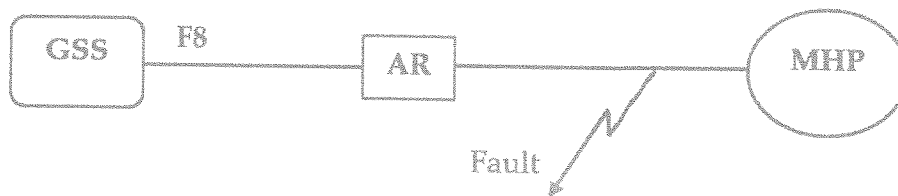

Figure Q2: Fault location in Feeder 08
- b) In wet season, the Auto Recloser (AR) installed at feeder 08 (F8) of Ratnapura GSS observes a delayed tripping for a fault occurred in the feeder section shown in Figure Q2. Critically analyze the above incident.